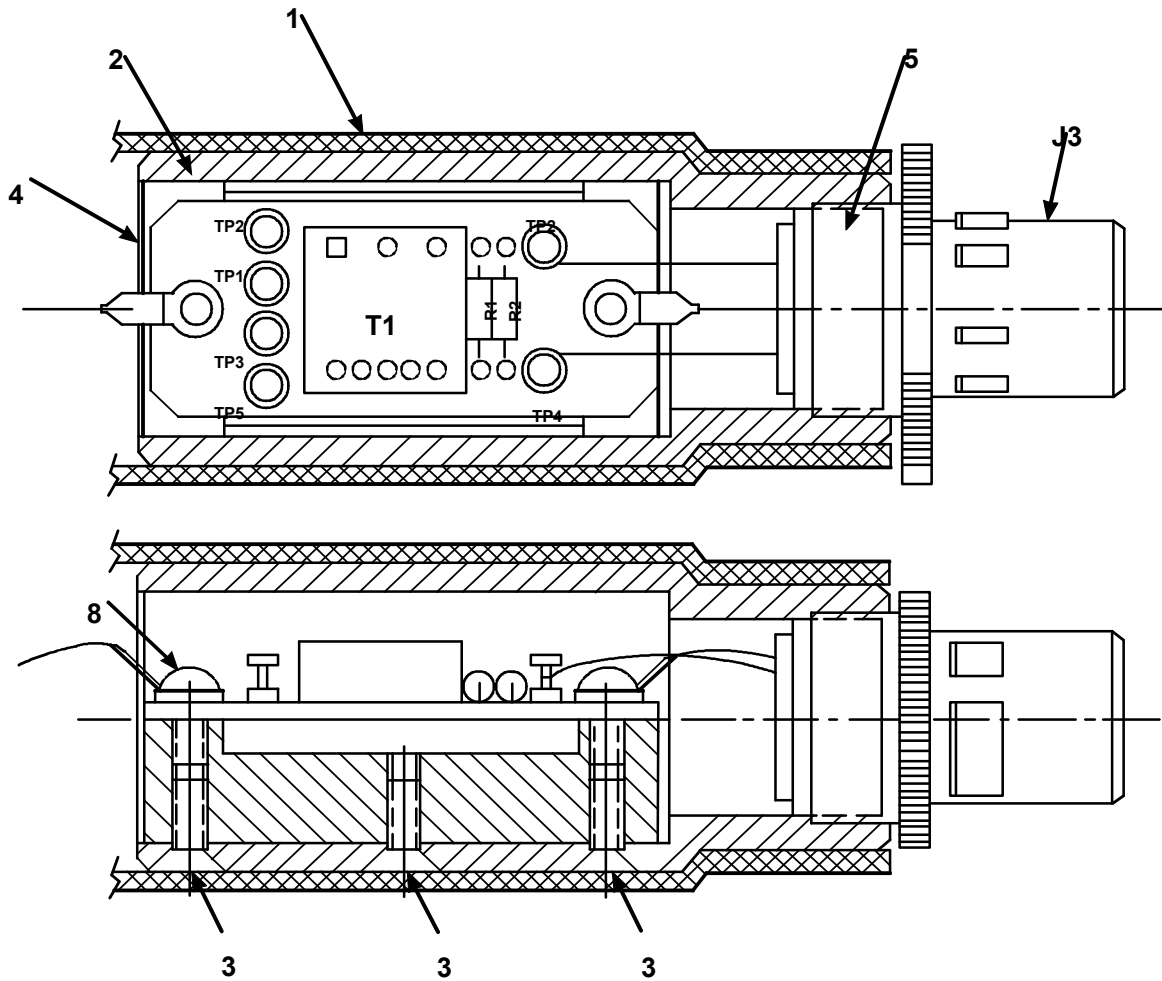

Figure 3-9. 1553 Stub (Part of Power and Data Cable (5-M), P/N 12991852)
**3.3.8 1553 Stub Repair Procedures.** Refer to Figure 3-9. Assembly and disassembly as follows: